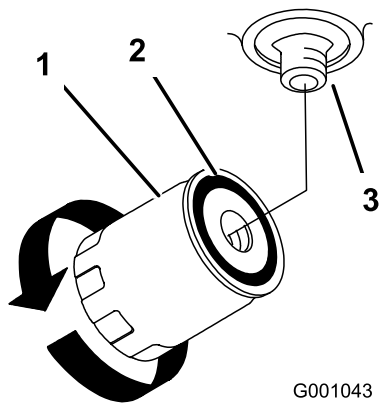

Figure 59
4. Apply a thin coat to the rubber gasket on the replacement filter (Figure 59).
6. Fill the hydraulic tank with hydraulic fluid until the fluid overflows the filter and then turn the oil filter clockwise until the rubber gasket contacts the filter adapter, then tighten the filter an additional 1/2 turn (Figure 59).